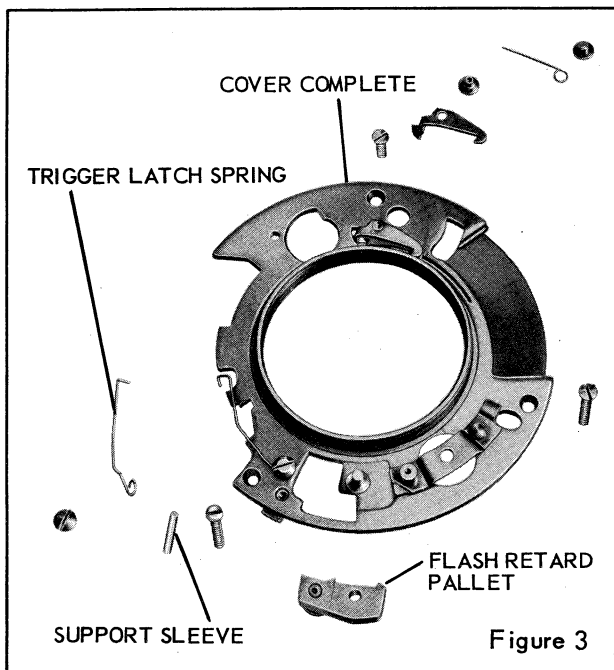
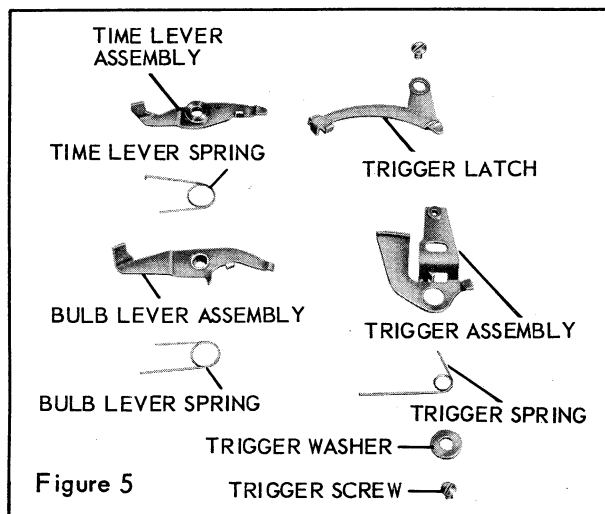

Figure 3
Figure 5
| Shutter does not set | The TRIGGER LATCH, figure 5, is not returning to its proper position after the shutter has been released. | The trigger latch is bent and binding on the speed index plate or cover. |
| | | It may be necessary to reduce the tension on the TRIGGER LATCH SPRING, figure 3. |
| | The FLASH RETARD PALLET, figure 3, is not meshing properly with the winding lever. | With special Tool No. 657, turn the eccentric post so that the pallet will mesh more firmly in the teeth of the winding lever. Make certain the post is tight on the cover after making this adjustment. |
CAUTION: Do not touch the TRIGGER LATCH, figure 5, as it may release the winding gear spring tension.
4. Trip the shutter and lightly hold the winding lever down around the central collar on the cover. As the shutter is tripped, the end of the latch should fall into the slot on the cover. If it does not, add more tension on the TRIGGER LATCH SPRING, figure 3. Check for a bind between the trigger latch and the TRIGGER ASSEMBLY, figure 5, at the point of attachment. The winding lever should contact the trigger latch, push the latch out of the slot in the cover, and open the shutter blades. After the shutter has been tripped, the latch should return to the position where it was resting on the ledge just above the small slot in the cover.
3. TRIGGER LATCH SPRING, figure 3.
4. TRIGGER LATCH, figure 5.
6. FLASH RETARD PALLET, figure 3.
5. TRIGGER SCREW, figure 5, TRIGGER SPRING, and TRIGGER WASHER.